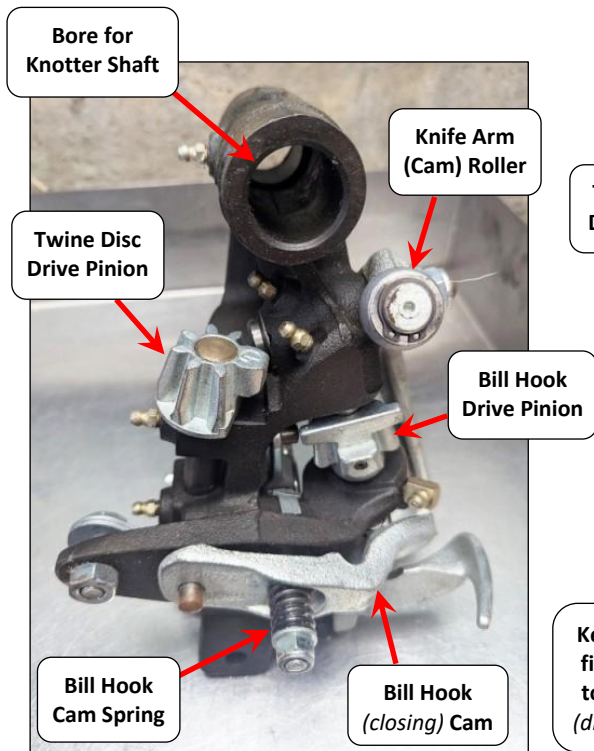

Fig.3.6 Deering-type knotter (*side view*)
- The Twine Disc drive pinion and Bill Hook drive pinion (Fig.3.6) engage with (*and are driven by*) different (*toothed*) sections of the Cam Gear